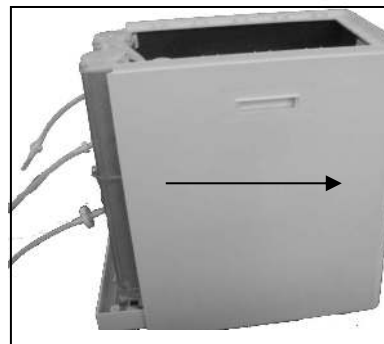

Figure 8
- Make the machine up-right , take out the cabinet parallel from the front.(Figure 8)